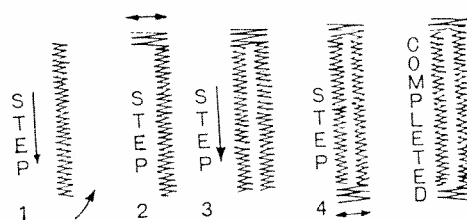

Fig. 37
3. Lower needle carefully into the mark on fabric indicating the beginning of buttonhole. Stitch to the mark for the end of the buttonhole, step 1, Fig. 37, stopping machine with needle in fabric at right side of stitching.
6. Push drop feed button all the way down and turn zig-zag stitch width knob as far to the right as possible and hold. Take five or six stitches to form bar tack step 2 Fig. 37.